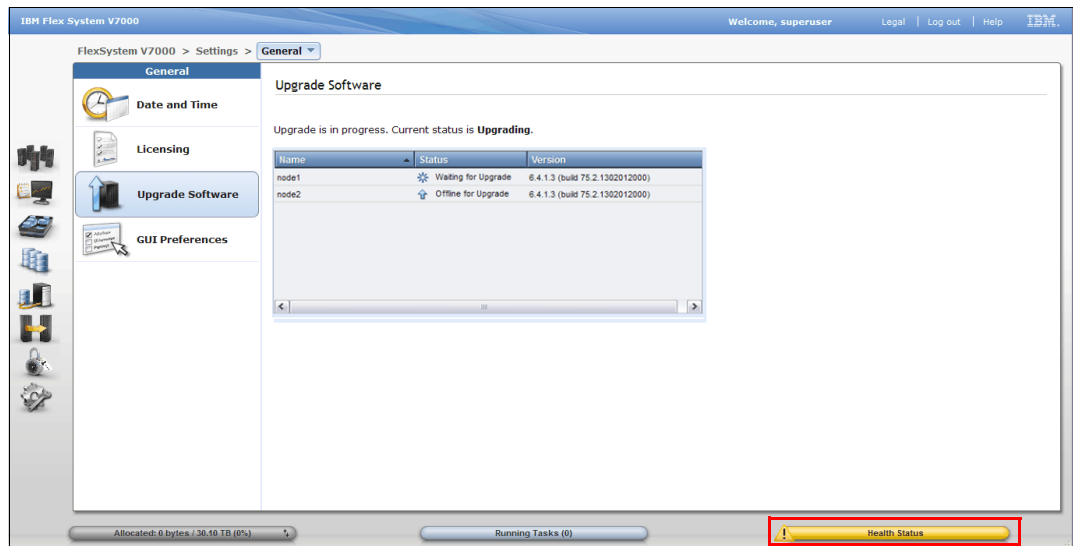
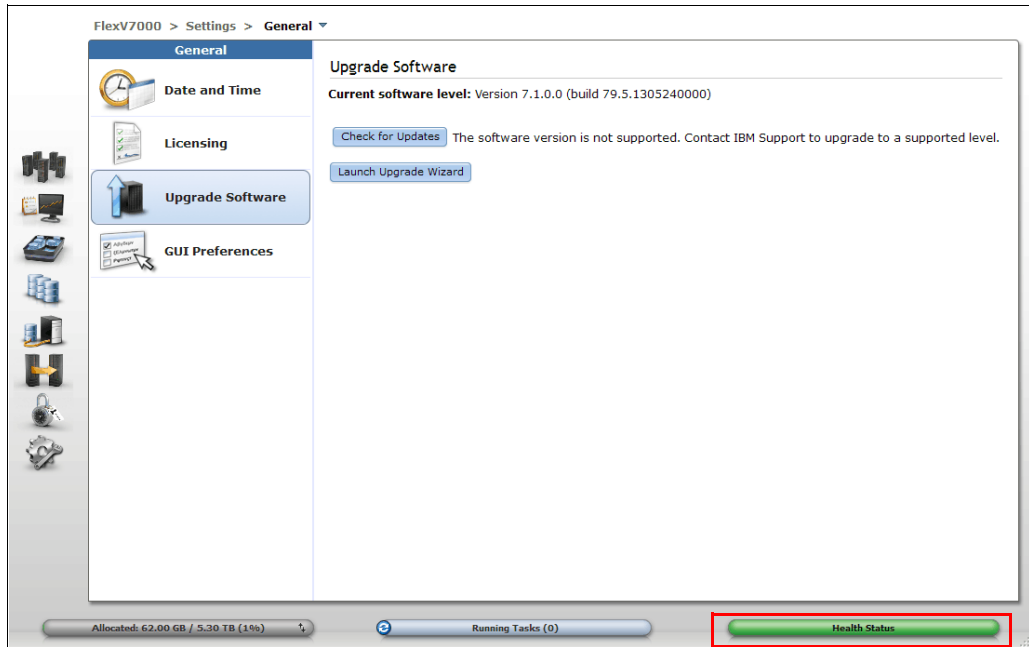

Figure 13-23 Monitoring upgrade status
Figure 13-24 Software upgrade complete
11. Click **Finish** to complete your software upgrade. You receive a message informing you that the first node, then the other node, has been upgraded. When both nodes have been rebooted, you have completed your IBM Flex System V7000 Storage Node software upgrade, as shown in Figure 13-23.
Tip: The System Health Status changes from green to yellow as soon as the upgrade starts on the first node canister, as shown in Figure 13-23. It will change from yellow to green again when the upgrade on the second node is complete, as shown in Figure 13-24.